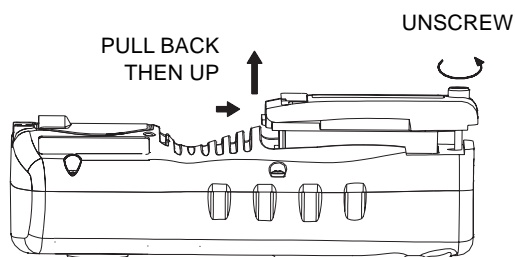

Figure 4: Battery Pack Removal
3.2 Battery Pack Removal and Replacement (Figure 4)